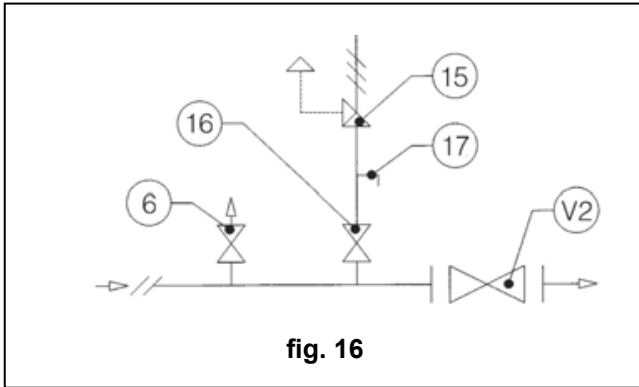

fig. 16
3.1.2 INSTALLATION WITH ON-OFF VALVE (fig. 16)